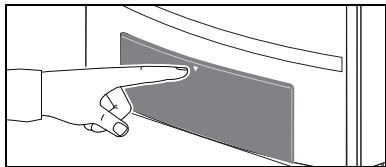

Fig. 2 Opening the control panel
The boiler is equipped with a control unit, the BC10 basic controller (fig. 2). This controller can be used to control the heating system.
- Push on the control panel to open it (fig. 2) and get access to the controller.
- Set the main switch on the BC10 to position "1" (ON) to switch ON the boiler and set it to "0" to switch the boiler OFF.